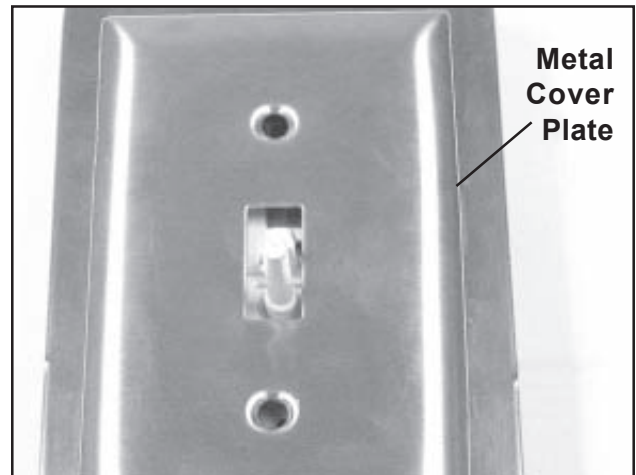

Figure 36. 24-hour Timer - Faceplate Removed
8. Lift off the metal cover plate (Figure 36).
2. Place the metal cover plate over the timer body (Figure 36).